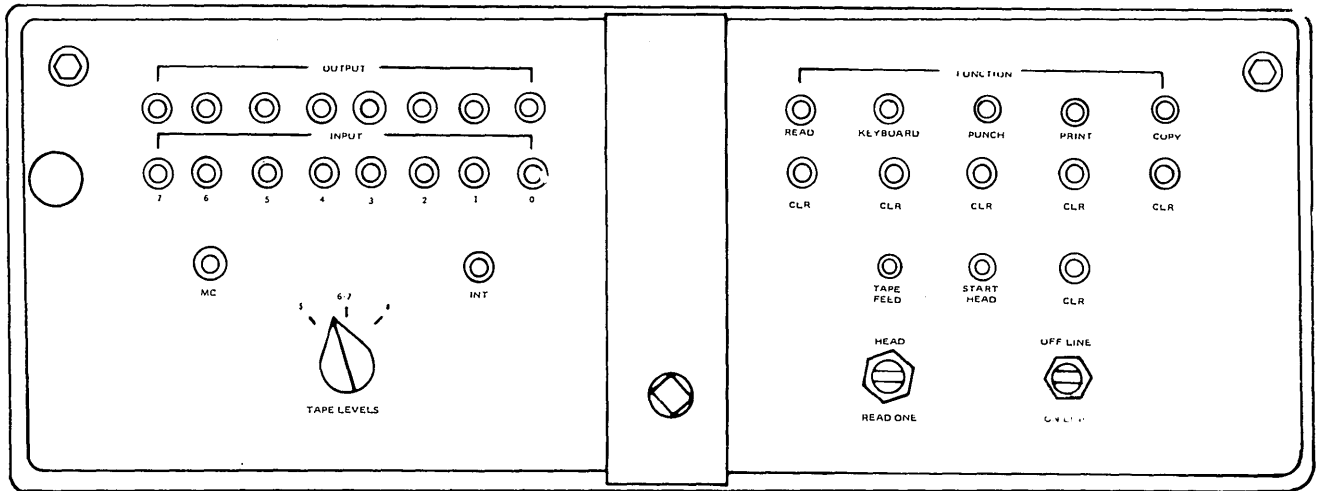

Figure 2-1. I/O Console Control Panel.
2-4. Control Panel. The control panel on the I/O Console (figure 2-1) supports the switches and indicators for the operational modes of the I/O Console. These devices and their functions are listed in table 2-1.
- k. Depress PUNCH indicator switch on control panel (figure 2-1) to start tape perforator motor.
- k. Depress KEYBOARD switch on control panel (figure 2-1). Keyboard motor will start and associated indicator will light.